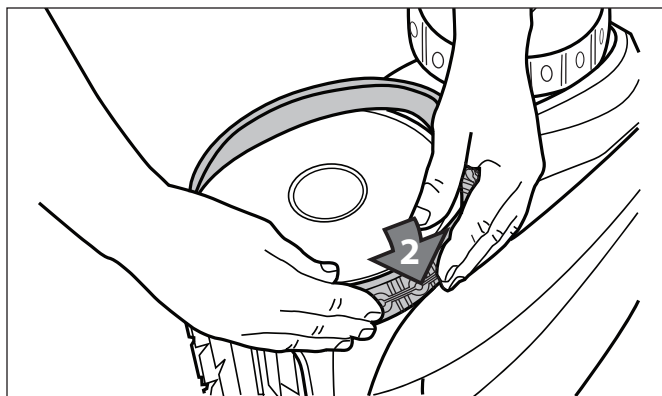

Figure 36. Start on One Side of the Tire
4. Push one side of the tire on to the wheel and fit the rib of the tire in the groove of the wheel as shown in Figure 36.